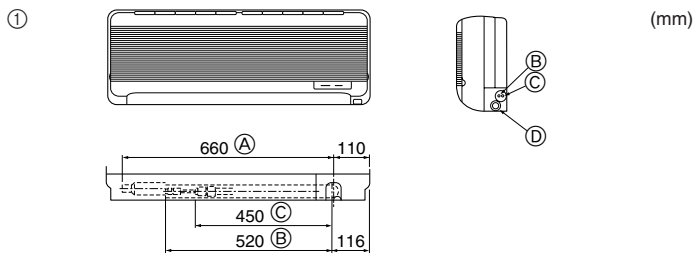

Fig. 4-2
① Position of refrigerant and drain piping (Fig. 4-2)
- (A) Total length of flexible hose
- (B) Liquid pipe
- (C) Gas pipe
- (D) Drain hose